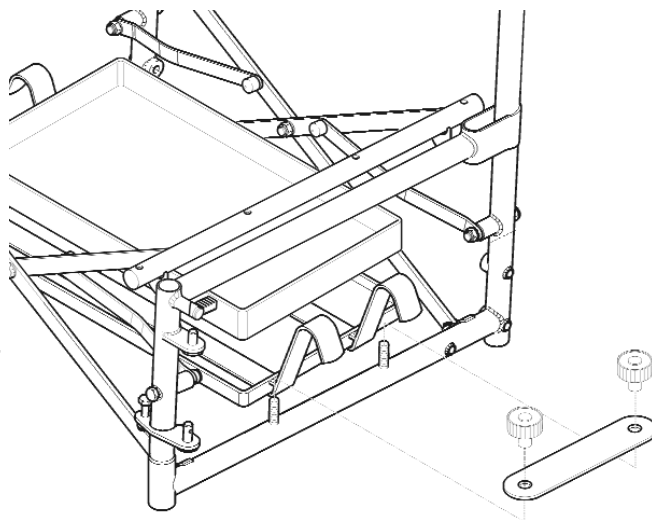

Fig. 3
5. Install Batteries/Cradle, ensure the Cradle is correctly located on the Tubes and fit Cradle Clamp with thumb screws (Fig.3), strap down batteries. Take care when lifting Batteries. To avoid injury be sure to adopt the correct lifting posture, ask for assistance if required.